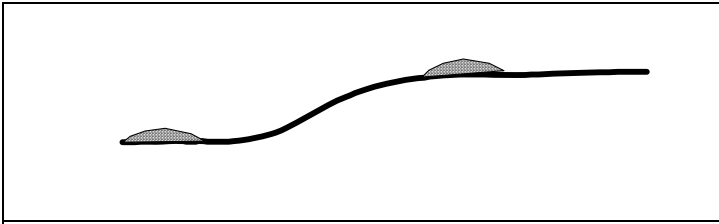
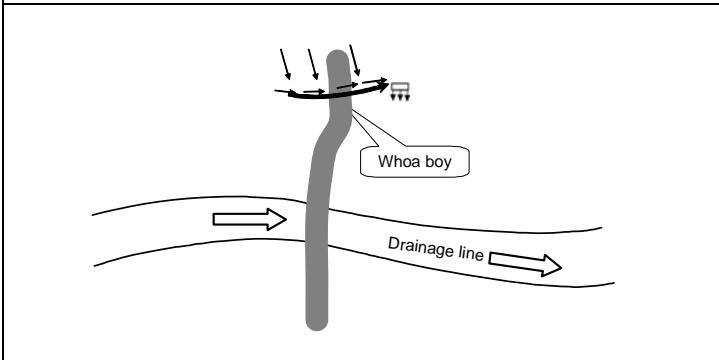

Figure 4—Locating whoa-boys at changes in slope
Figure 5—A whoa-boy at the approach into a drainage line
- locate whoa-boys where there is a significant change in slope (Figure 4) or on the approach to a drainage line or creek (Figure 5)